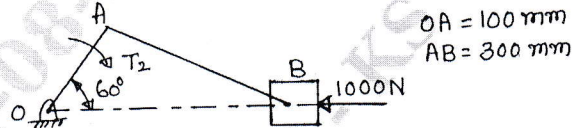

Fig.Q1(b)
b. Determine the required input torque on the crank of a slider crank mechanism shown in Fig.Q1(b) for static equilibrium.